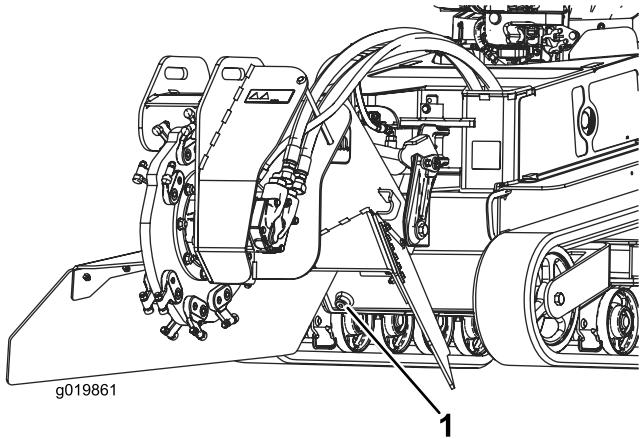

Figure 61
8. Remove the hydraulic tank drain plug and allow the fluid to drain into the pan (Figure 61).